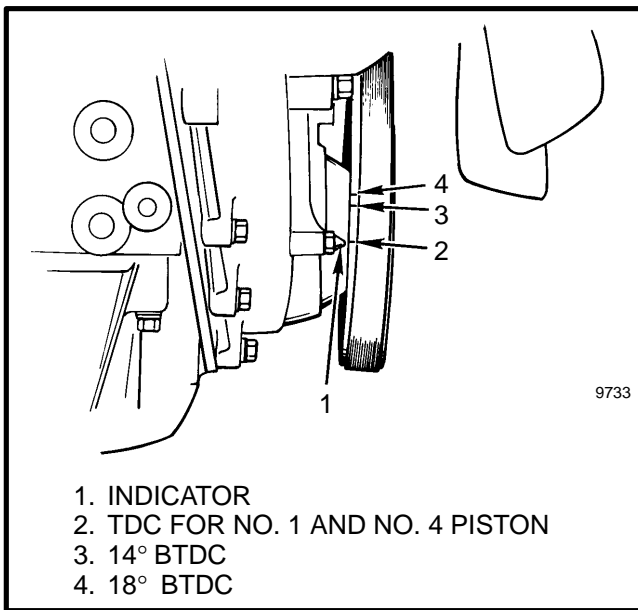

FIGURE 66. TIMING MARKS
2. Rotate the crankshaft until the number one piston is at TDC on the compression stroke. Read the mark for timing on the crankshaft pulley that is aligned with the indicator on the gear case shown in FIGURE 66. Rotate the crankshaft before and after TDC to find the maximum movement of the plunger toward the end of the distributor head.
5. Read the mark for timing on the crankshaft pulley that is aligned with the indicator on the gear case. See FIGURE 66. The correct timing for injection is 14° BTDC.
on the crankshaft pulley that is aligned with the indicator on the gear case. See FIGURE 66. The correct timing for injection is 14° BTDC.